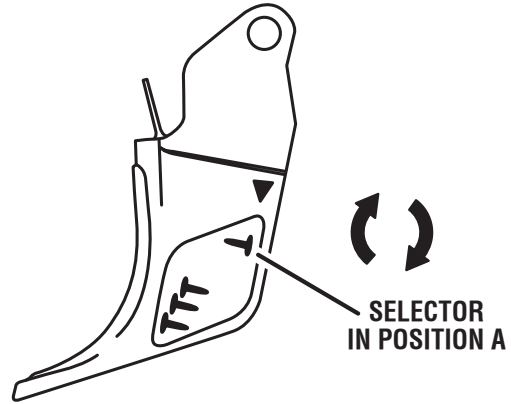

Fig. 16
See Figures 16 - 17.
- Rotate the selectable trigger knob on the trigger to Single Sequential Actuation operation, Position A, as shown in figure 16. No air should leak from the tool.